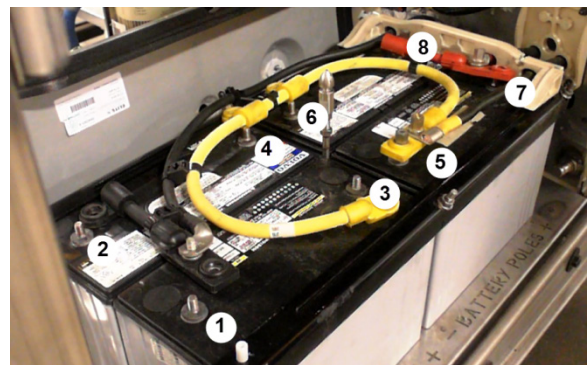

FIGURE 44: DISCONNECT 8 CABLE TERMINALS
3. Using a 9/16 hex socket box, disconnect the eight (8) battery cable terminals (FIGURE 44).